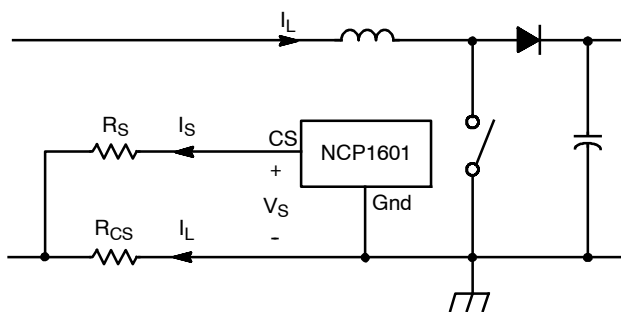

Figure 32. Current Sensing
The device senses the inductor current  $I_L$  by the current sense scheme in Figure 32. This scheme has the advantages of: (1) the inrush current limitation by the resistor  $R_{CS}$ , and (2) the overcurrent protection and zero current detection implemented in the same pin.
Inductor current  $I_L$  passes through  $R_{CS}$  and creates a negative voltage. This voltage is measured by a current  $I_S$  flowing out of the CS pin (Pin 4). The CS pin has an offset voltage  $V_S$ . This offset voltage is studied in the setting of zero inductor current  $I_{L(ZCD)}$  and the maximum inductor current  $I_{L(OCP)}$  (i.e., overcurrent protection threshold). A typical variation of offset voltage  $V_S$  versus sense current  $I_S$  is shown in Figure 15. Higher the value of the offset voltage at low current region creates lower the zero current threshold for better accuracy. Based on Figure 32, (eq.13) is derived.